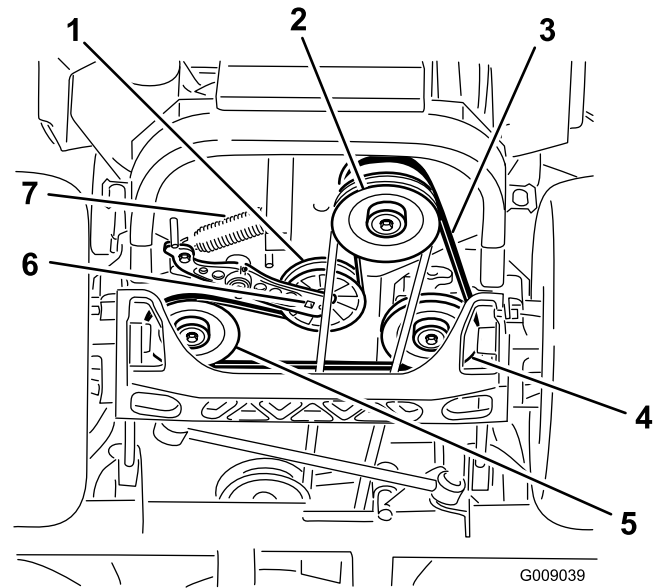

**Figure 75**
12. Install the belt covers (Figure 75).